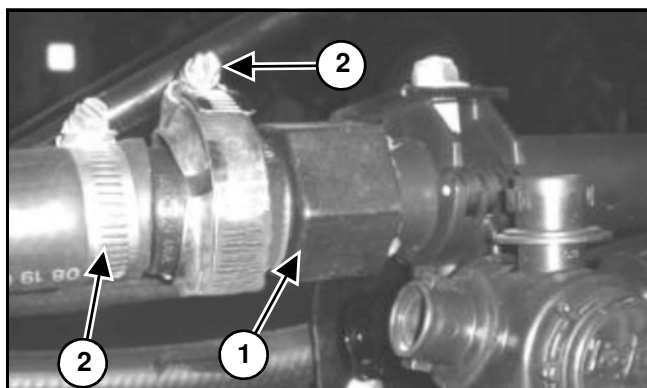

Figure 21
[Figure 21] - At two locations, the quick coupler boom tube (1) interferes with the valve assembly installation.